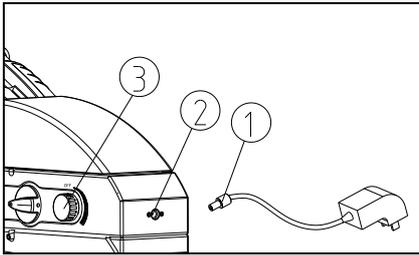

Fig 36
a) Transformer power supply. First insert one end of transformer ① into LED fluorescent illuminator power socket ②. Then insert the other end directly into electric outlet. (See Fig.36)
★ Before connecting an external transformer, should rotate the light adjustment knob ③ to “OFF”. (See Fig.36)
(1) First insert one end of the power cable ④ into LED fluorescence illuminator power socket ②. Then insert the other end into the battery pack output port ⑤ (can be connected to any output port). (See Fig.36、 37)
★ Before connecting the power cable, should push the switch of battery pack to “O” (OFF) and should rotate the light adjustment knob ③ to “OFF”. (See Fig.36、 37、 38)
(3) Charge the battery pack when it is low power. Connect the power cord ⑦ with the outlet and the interface ⑥ on the pack.